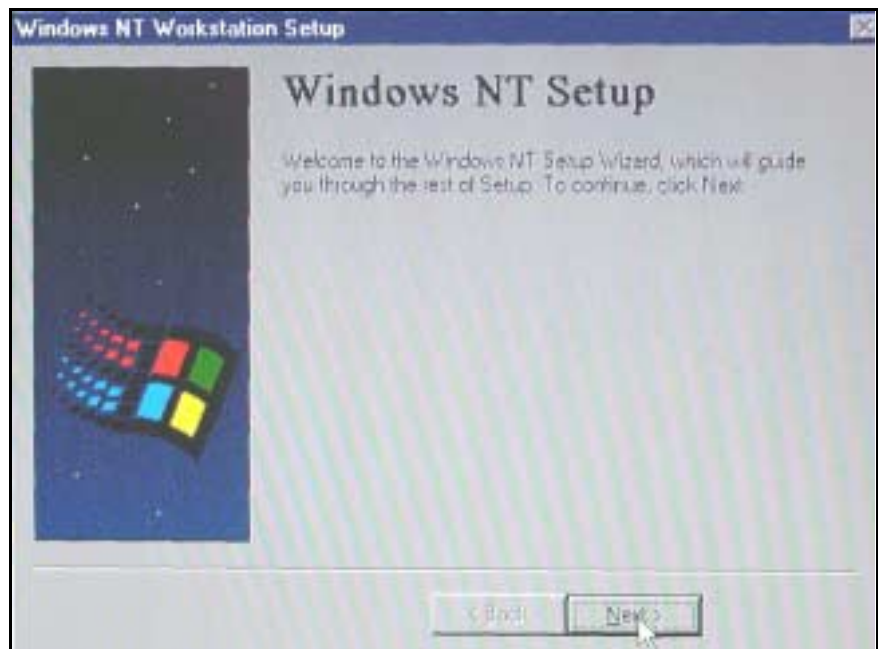

Figure 4-10 Setup screen
18. At “Windows NT Workstation Setup” screen (see Figure 4-10) click *Next*.